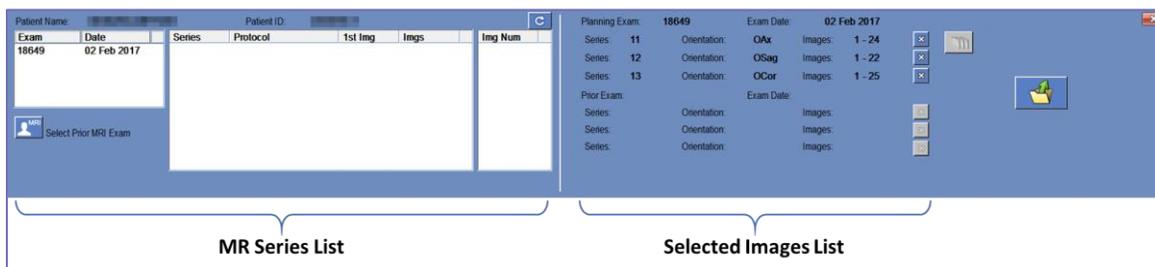

Figure 6-5: Planning stage – Loading Form
3.  Press this button and open the loading form (see Figure 6-5).